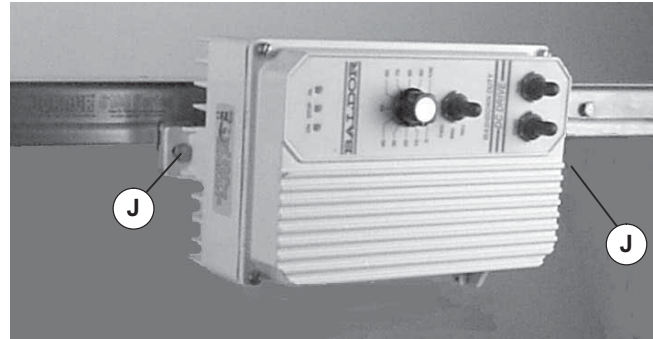

Figure 4
2. Secure controller to clips with M6 x 16 stainless steel hex head cap screws (Figure 4, item J) as shown.